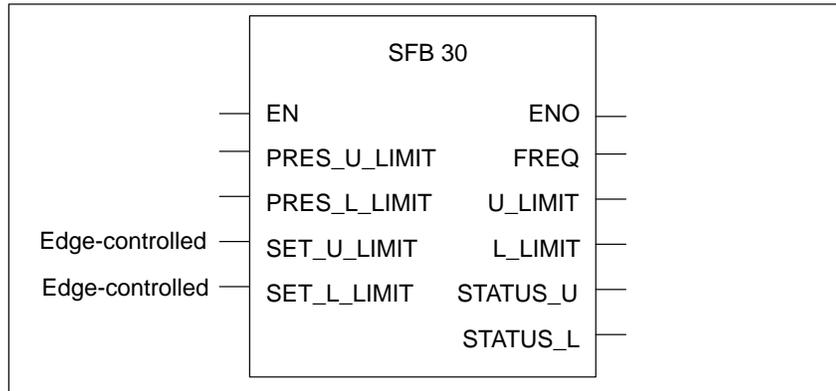

Figure 3-5 Graphical Illustration of SFB 30
**SFB 30** The Frequency Meter integrated function is assigned to SFB 30. A graphical illustration of SFB 30 is shown in Figure 3-5.